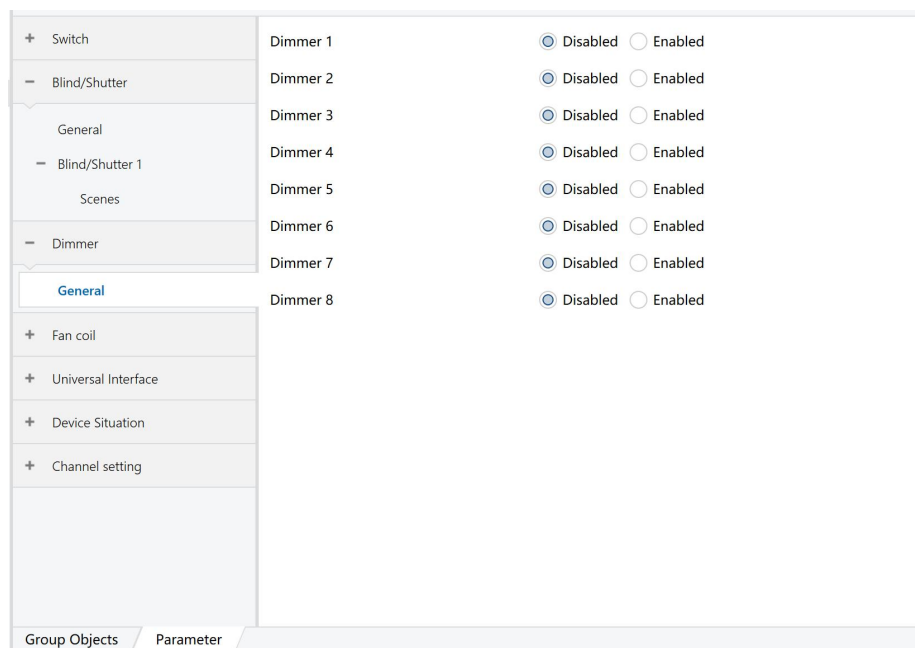

Figure 6.3.1
- 1) As shown in Figure 6.3.1, the "Dimmer" fan function module has 8 Channels, options: Disabled, Enabled